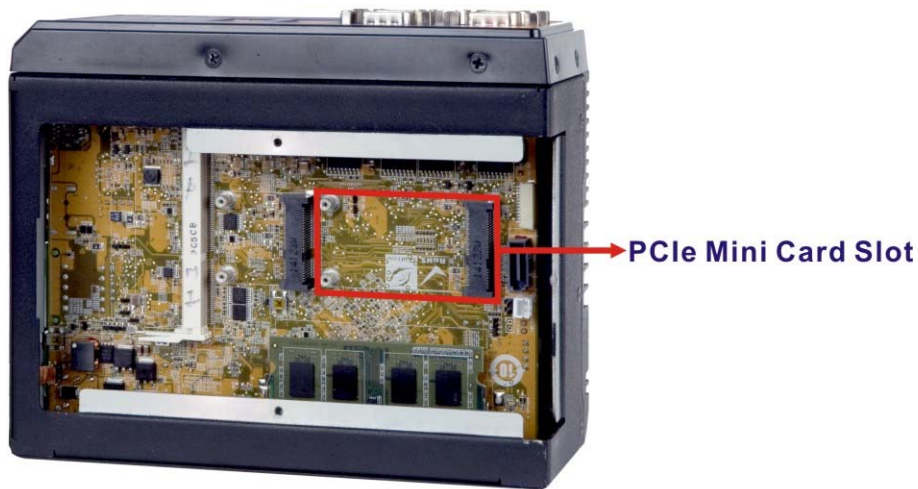

Figure 3-3: PCIe Mini Slot Location
Step 2: Locate the PCIe Mini slot on the motherboard (**Figure 3-3**).
Step 2: Locate the IPMI module slot on the motherboard (**Figure 3-3**).